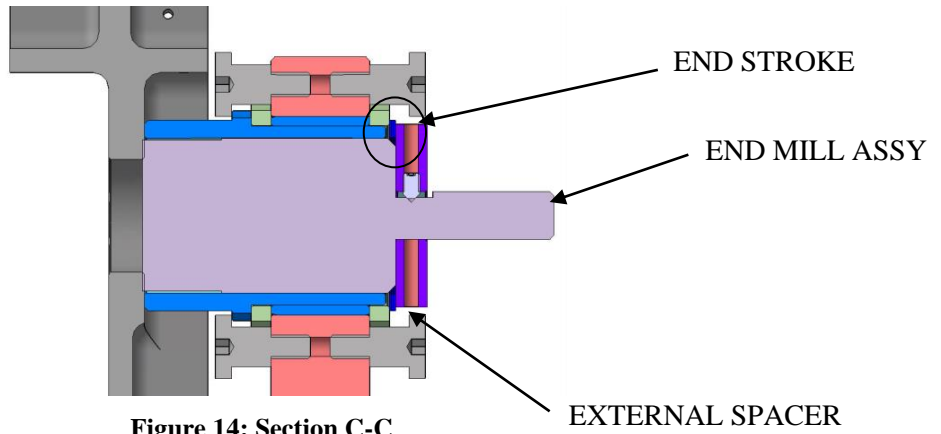

Figure 14: Section C-C
3. Mill the hole until reaching the end stop as shown in Fig 14.